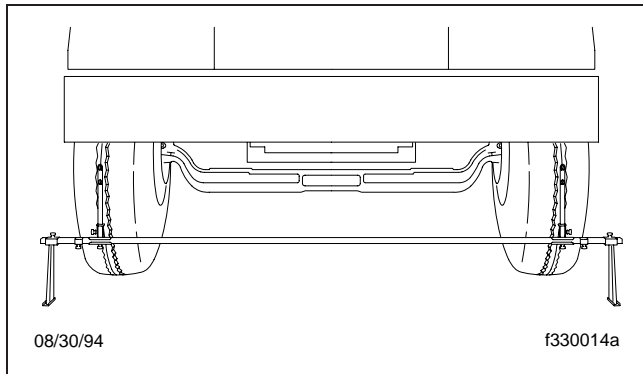
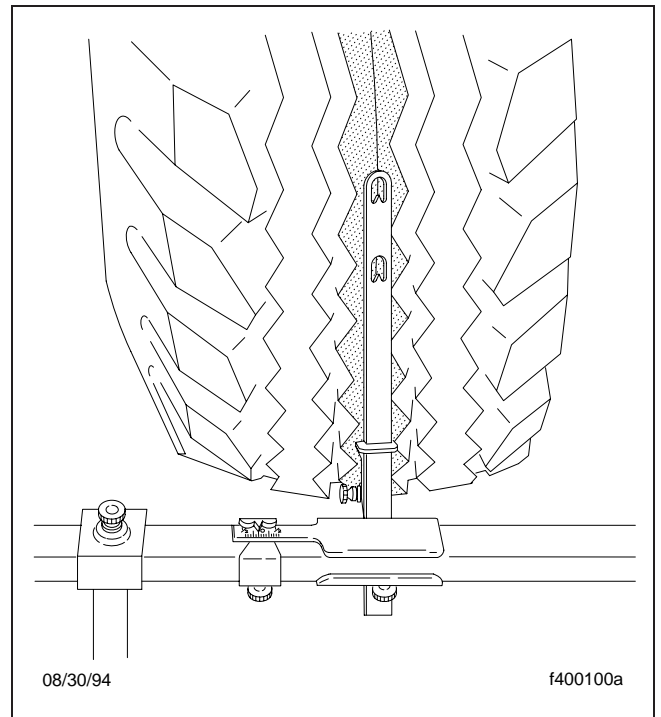

Fig. 3, Trammel Bar Positioning
Fig. 4, Setting Trammel Bar Pointers
7. Place the trammel bar at the front of the tires, see **Fig. 3**, and adjust the scale end so that the pointers line up with the scribe lines. See **Fig. 4**.